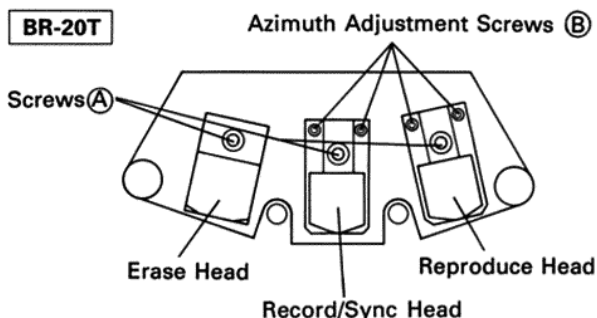

Figure 5-13. Head Adjustment Screws
2. Loosen the "A" screw(s) shown in Figure 5-13, and, holding the upper area of the erase head, tilt left and right for best erasure, and retighten the "A" screw(s) to block the head where a maximum erasure is measured.
4. Refer to Figure 5-13. Loosen tape contact adjustment screw "A" and azimuth adjustment screws "B" on the head being checked.
- To adjust the azimuth adjustment screws "B" shown in Figure 5-13, note the following;